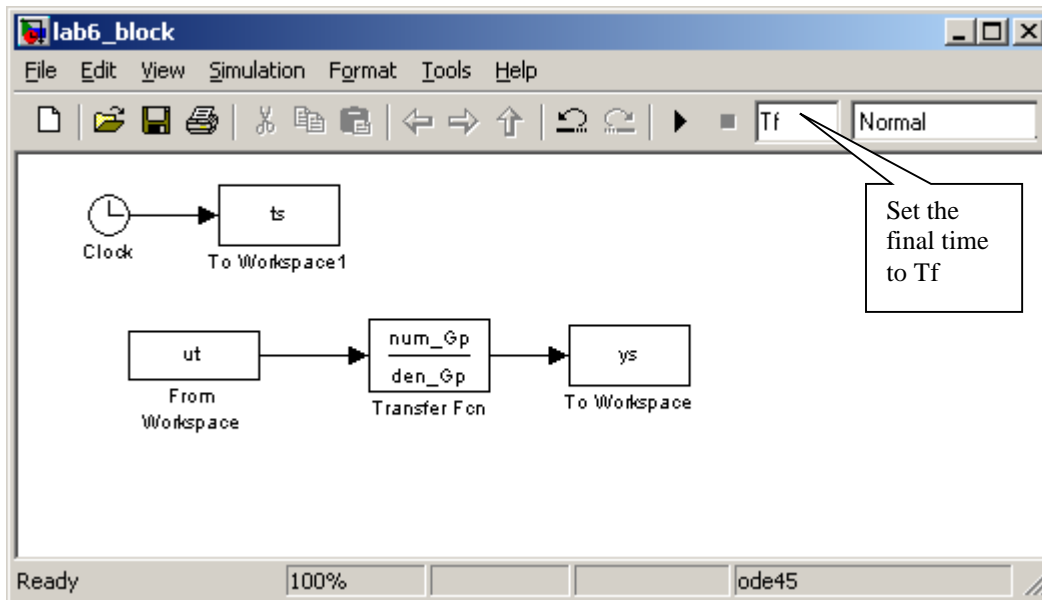

Figure 2. The openloop Simulink file.
12) Construct the model file shown in Figure 2. You will need to look in the **Sources Library** for the *from workspace* block and the clock block, the **Sink Library** for the *to workspace* blocks (be sure to save the data as an *array*, click on these boxes for this choice), and the **Continuous Library** for the *transfer function* block. Click on the transfer function block to enter the numerator as **num_Gp** and the denominator as **den_Gp**. **Be sure to change the final time of the simulation to Tf.** The final time of the simulation defaults to 10 seconds, and it appears in a box near the top of the Simulink model file.